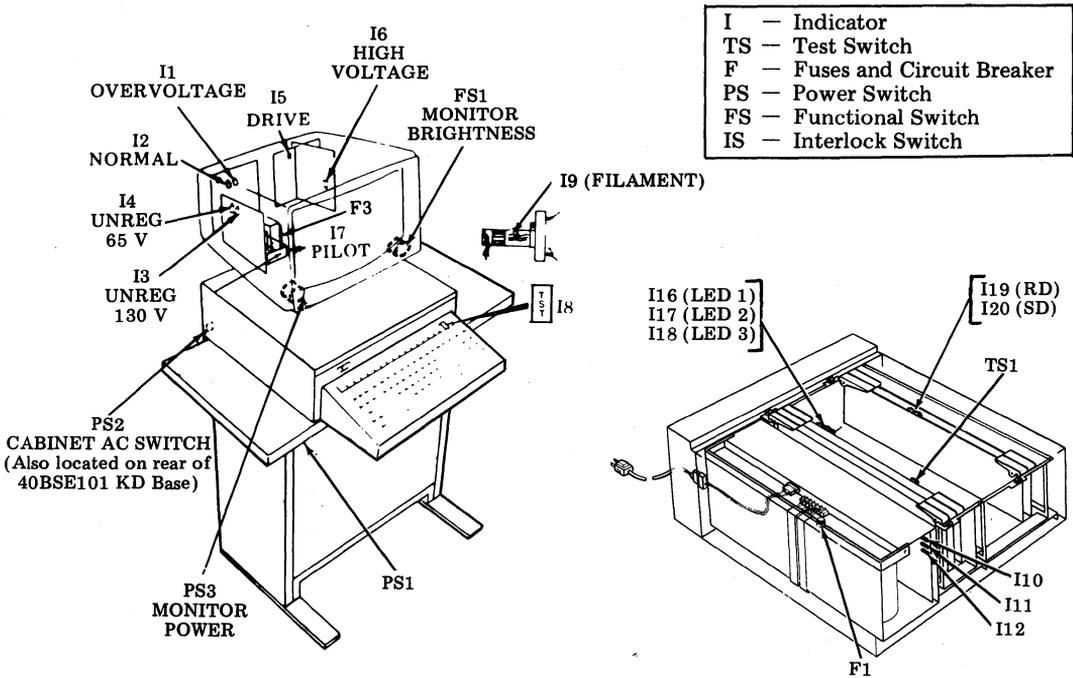

Fig. 1—Test Switches and Indicators (Controller and KD)
1.06 Test switches and indicators are shown in Fig. 1 and 2.